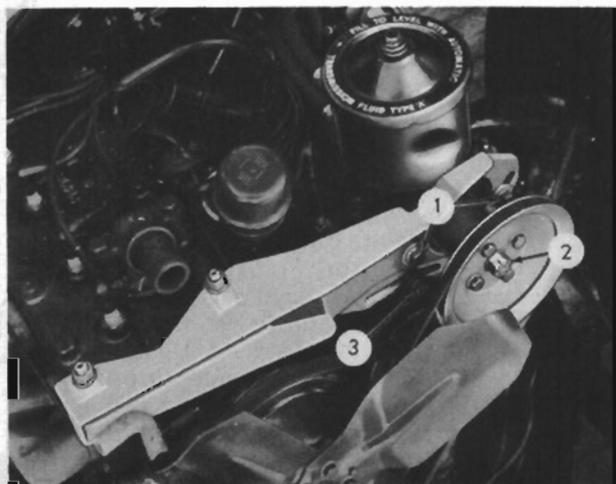

FIG. 82
On the 56G models, loosen the pulley retaining nut (2, Fig. 82). Then loosen the mounting cap screws (1) and allow the assembly to move downward to take the tension off the belt. Remove the belt from the pulley, remove nut, and slip the pulley off the shaft. Remove the mounting cap screws and remove the assembly from the bracket.